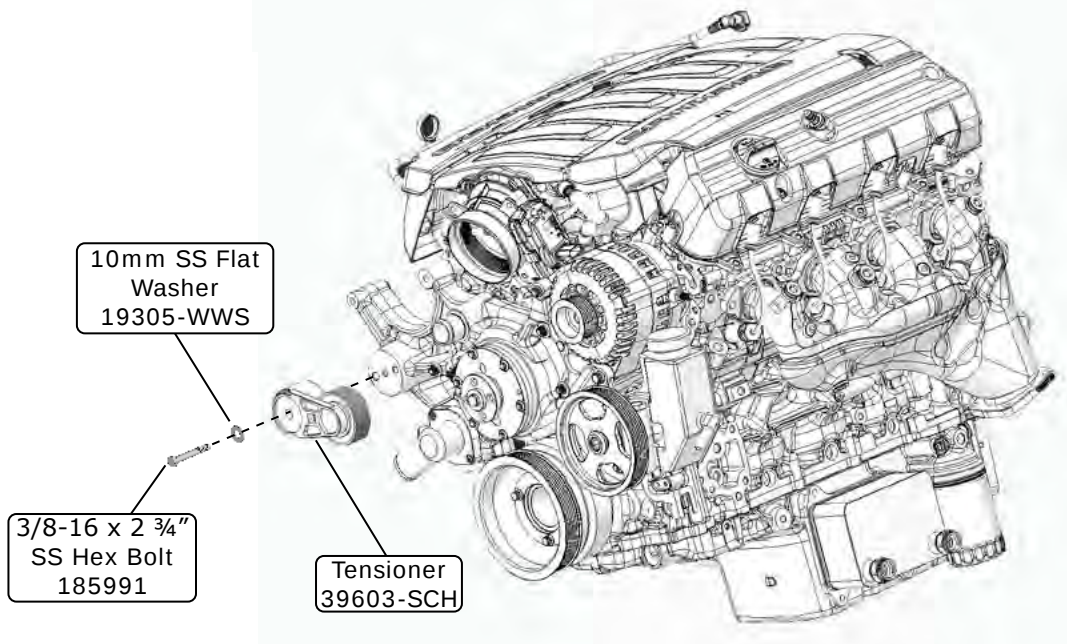

Figure 1
1. Align tensioner pins with holes in casting as shown in Figure 1, below. Secure tensioner with 10mm washer and 3/8-16 x 2 3/4" SS hex bolt torqued to 21 +/-2 lb-ft (See Figure 1, below).
1. Install the A/C compressor as shown in Figure 1, below.